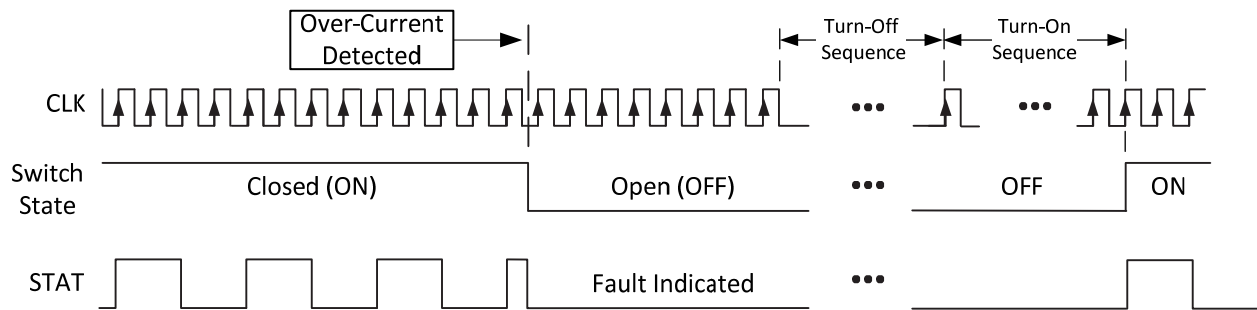

Figure 4: Status Functionality
The status of the switch may be determined by the STAT signaling from the TS13501. When a valid Turn-On Sequence has been received, the switch will close and a signal received at the STAT output will indicate this condition. The STAT pin will continue to switch at a frequency of $F_{STAT} = F_{CLK} / 4$ as long as a valid CLK input is driven to the device and the switch is in the closed (ON) state. The Status Functionality is shown in Figure 4.
The load current is continually evaluated when the switch is in the "ON" state. In the event that the load current exceeds the threshold limits ($I_{OUT_{OC}}$ or $I_{OUT_{PK}}$), the switch will be opened and the state is indicated by the STAT pin, which will cease switching as shown in Figure 4.